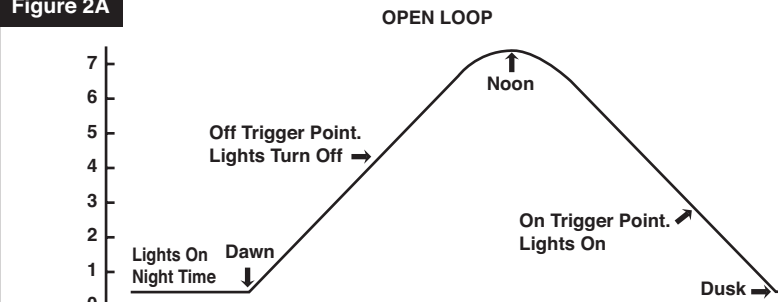

Figure 2B
- When the sensor is pointed down, it will typically detect light contributions from both the fixtures it controls and the ambient light from outside sources. This establishes a closed looped system. Switching loads off in a closed loop system rather than dimming can cause complications if not programmed properly. The graph in **Figure 2B** tracks the value of a linear photocell throughout a day. It is assumed that it is a cloudless day and that the desired light level is the same level without external light influence and only by the fixtures. At the far left, the lights are on because the area is occupied and since it is still night, there is no contribution from daylighting. As dawn arrives, the photocell level begins to increase as the daylight increases. In order to keep the light level from dropping below the trigger point, and in this case below the desired light level in the area, the trigger point is set to 2.5 times the level read with only the fixtures. That way, the light is still adequate to hold the lights off. This is shown in the graph at the point where the level suddenly drops. The photocell level then continues to increase until around noon. As the daylight decreases, the area light eventually drops to near the desired light level. Before reaching this point the lights are turned back on indicated by the sudden increase in the photocell level.